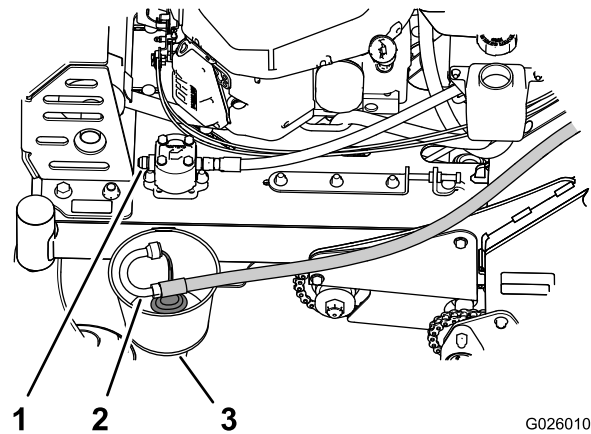

Figure 56
- At the front of the auxiliary-hydraulic pump, remove the inlet hose from the hydraulic fitting in the pump, place the end of the hose in a drain container, and allow oil to drain (Figure 56).